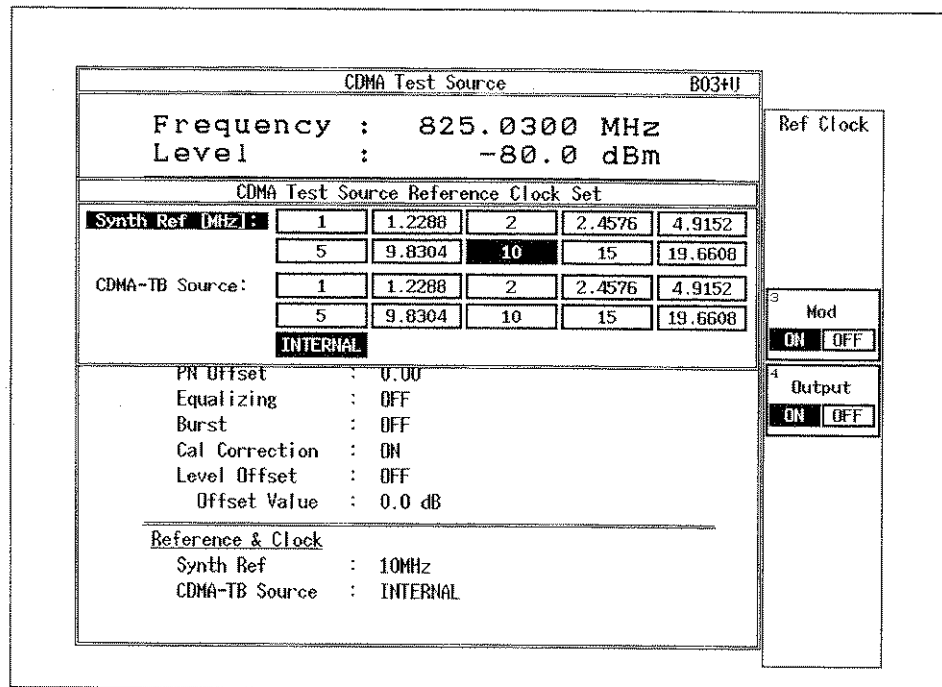

Figure 3-6 Reference Clock Dialog Box Screen
(8) Ref Clock key
**{Setup} → {Ref Clock}**: Set the reference clock of the RF-SYNTHESIZER REFERENCE circuit and CDMA-TIMEBASE circuit (REFERENCE section) in the R3561L (see Figure 3-6). Both reference clocks can be externally input. If the set value is not synchronous with the clock value input externally, the REF UNLOCK lamp LED is lit on the front panel.